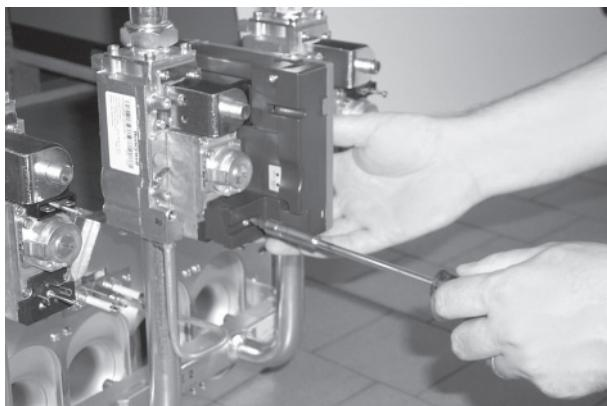
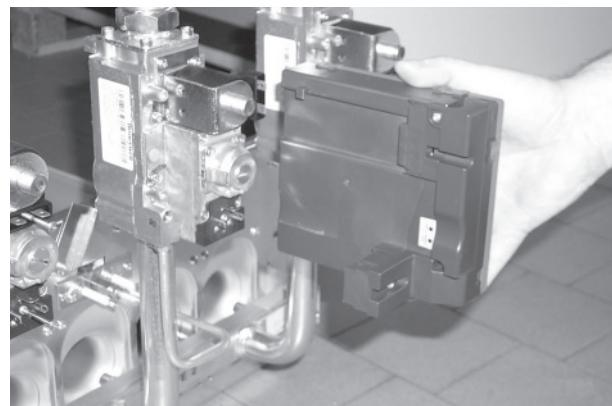

fig. 12
fig. 13
- Unscrew the two screws securing the electronic flame controllers to the gas valve (fig. 12) and remove them from the gas valves (fig. 13).